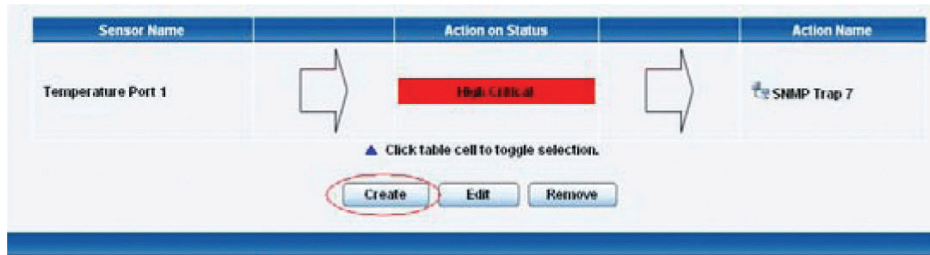

Figure 4-18. Create button.
11. Click "Finish." You will now be taken back to screen shown in Figure 4-18.